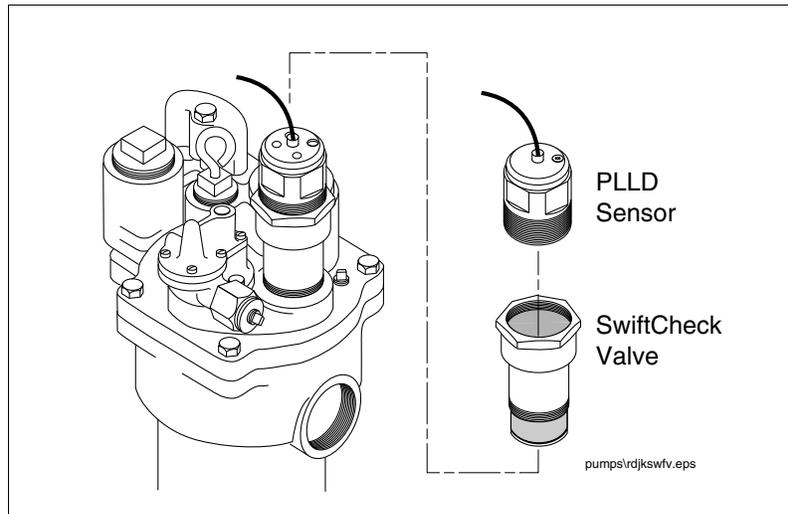
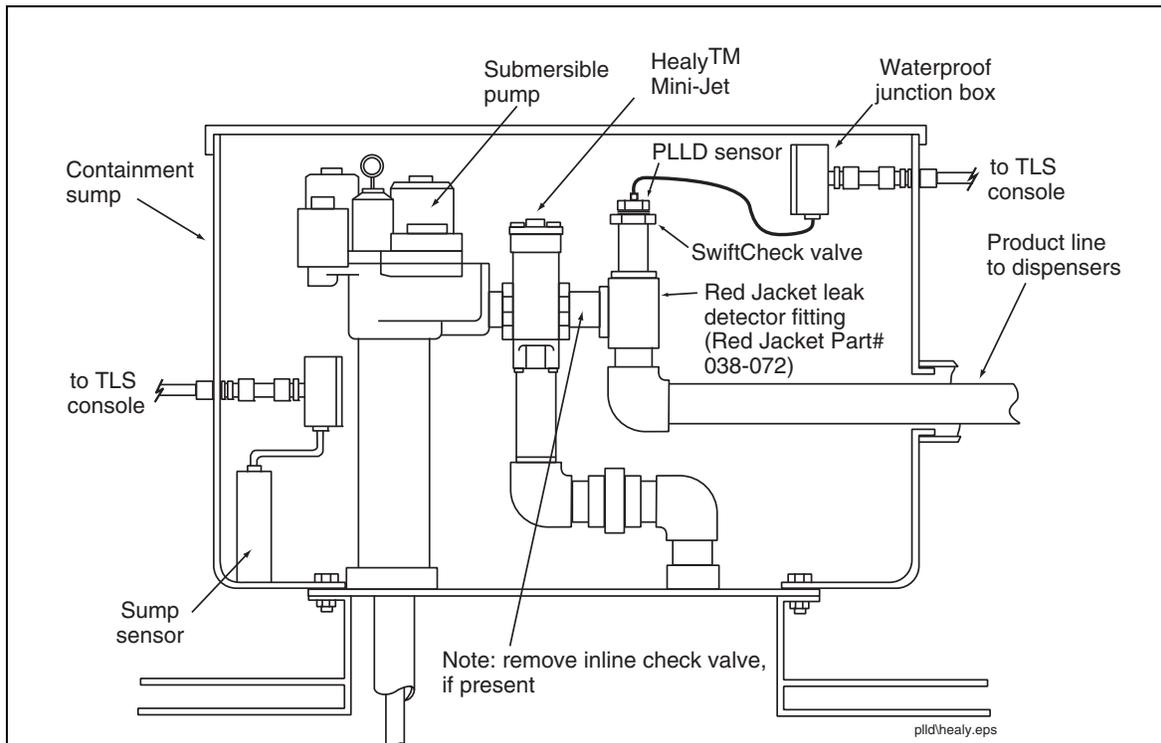

Figure 4. PLLD Transducer Installation
Figure 5. PLLD Install W/Healy Mini-Jet System (Required Dielectric Union And Shutoff Valve Not Shown)
5. If there is no Stage II vapor recovery, install the SwiftCheck valve [Figure 4] in the mechanical LLD pump port. Thread the PLLD transducer into the SwiftCheck Valve.
6. If there is a Stage II vapor recovery device installed in the pressurized piping you must install the SwiftCheck valve into a Red Jacket leak detector fitting (P/N 038-072) as shown in Figure 5 instead of in the pump's leak detector port. Because the PLLD transducer must be installed downstream from these devices, a monitored containment sump is required.
7. Thread the PLLD transducer into the SwiftCheck valve (ref. Figure 4 or Figure 5 as appropriate).
3. Thread the PLLD transducer into the LLD port (Figure 5).
Lubricate the external o-ring on the SwiftCheck valve using mineral oil or other suitable lubricant and thread the valve into the Red Jacket leak detector fitting (P/N 038-072) as shown in Figure 5 on page 11 instead of in the pump's leak detector port. Next thread the PLLD transducer into the SwiftCheck valve.
3. If the pump does have a Stage II vapor recovery device installed in the pressurized piping, lubricate the external o-ring on the SwiftCheck valve using mineral oil or other suitable lubricant and thread the valve into the Red Jacket leak detector fitting (P/N 038-072) as shown in Figure 5 on page 11 instead of in the pump's leak detector port. Next thread the PLLD transducer into the SwiftCheck valve.
the Red Jacket leak detector fitting (P/N 038-072) as shown in Figure 5 on page 11 instead of in the pump's leak detector port. Next thread the PLLD transducer into the SwiftCheck valve.